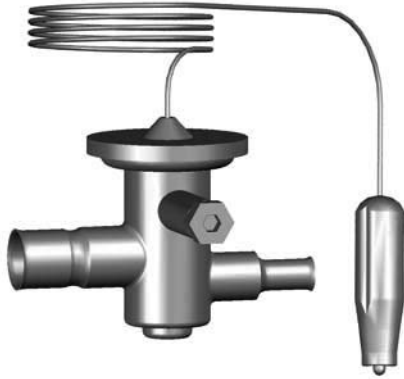

Figure 5-5 TXV
- F. Apply a heat sink (wet cloth) to the valve dome (Figure 5-5).